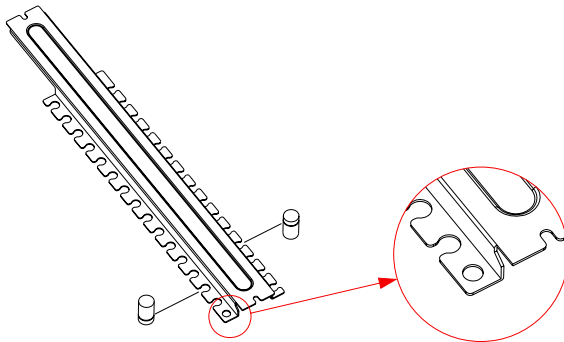

Figure 2.7: The circular hole on the hold-down clamp
2. Put the hold-down clamp back into its original position. Please note that the circle hole on the hold-down clamp faces left rear. (See *Figure 2.7*).